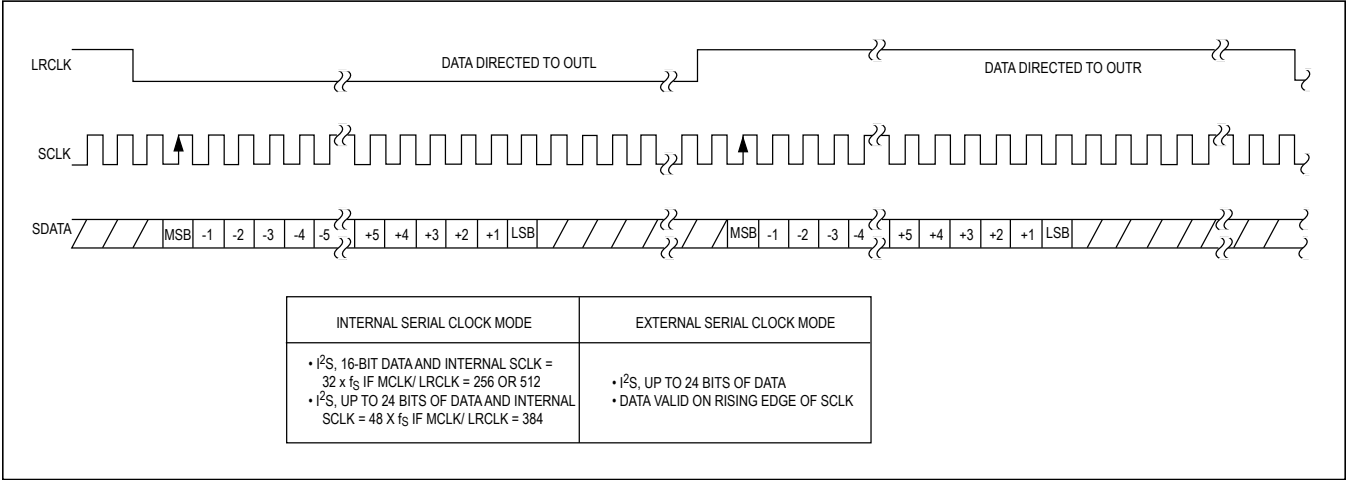

Figure 4. MAX5556 Data Format Timing
- Note 6:** In external SCLK mode, LRCLK duty cycles are not limited, provided all data formatting requirements are met. See Figure 4.
- Note 8:** The SCLK/LRCLK ratio can be set to 32, 48, or 64, depending on the MCLK/LRCLK ratio selected. See Figure 4.
The serial interface strobes data (SDATA) in on the rising edge of SCLK, MSB first. The MAX5556 supports four different data formats, as detailed in Figure 4.
LRCLK is the left/right clock input signal for the 3-wire interface and sets the sample frequency (f_S). On the MAX5556, drive LRCLK low to direct data to OUTL or LRCLK high to direct data to OUTR (Figure 4). The MAX5556 accepts data at LRCLK audio sample rates from 2kHz to 50kHz.
The MAX5556 accepts data with an I²S left-justified data format, accepting 16 or 24 bits of data. SDATA accepts data in two's complement format with the MSB first. The MSB is valid on the second SCLK rising edge after LRCLK transitions low to high or high to low (Figure 4). Drive LRCLK low to direct data to OUTL. Drive LRCLK high to direct data to OUTR. The number of SCLK pulses with LRCLK high or low determines the number of bits transferred per sample. If fewer than 24 bits of data are written, the remaining LSBs are set to 0. If more than 24 bits are written, any bits after the LSB are ignored.